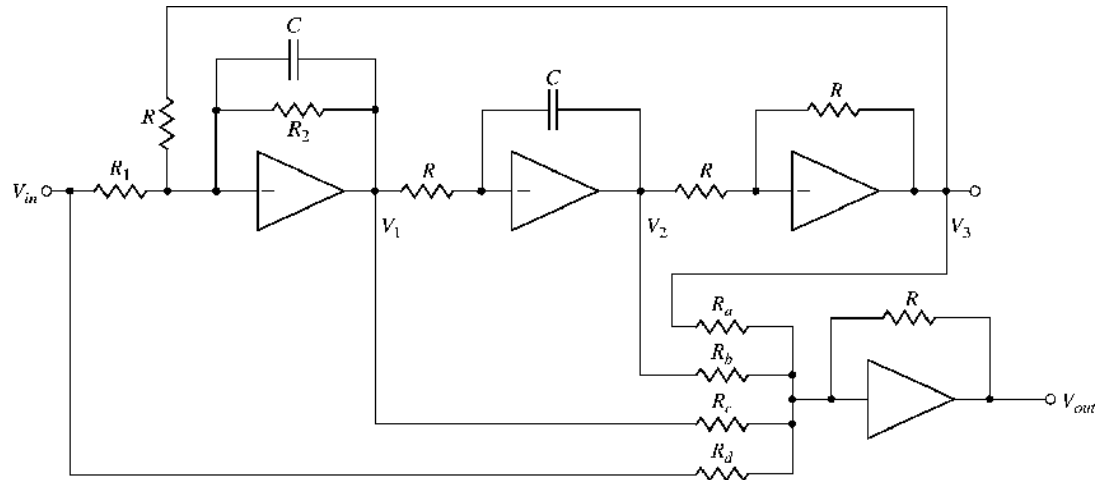

Fig. 2.55 Op-amp biquad
18. The very flexible circuit shown in Fig. 2.55 is called a biquad because its transfer function can be made to be the ratio of two second-order or quadratic polynomials. By selecting different values for R_a , R_b , R_c , and R_d the circuit can realise a low-pass, band-pass, high-pass, or band-reject (notch) filter.
- (b) Using the MATLAB comand step compute and plot on the same graph the step responses for the biquad of Fig. 2.55 for $A = 2$, $\omega_n = 2$, and $\zeta = 0.1, 0.5$, and 1.0 .
19. Find the equations and transfer function for the biquad circuit of Fig. 2.55 if $R_a = R$, $R_d = R_1$ and $R_b = R_c = \infty$.